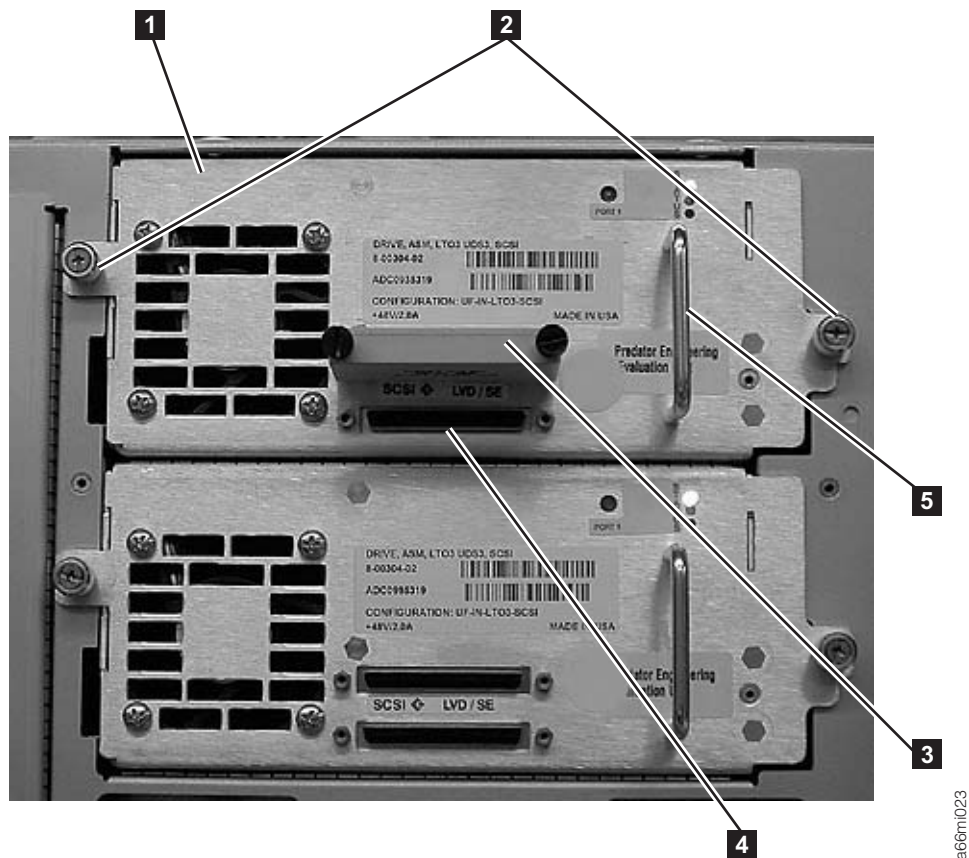

Figure 11-6. Drive sled (detail)
3. Loosen the two thumb screws (**2** in Figure 11-6 on page 11-9) that hold the drive in place by turning them counterclockwise.
4. Slide the drive out of the library module. Grasp the handle (**5** in Figure 11-6 on page 11-9) and slowly pull the drive toward you, while supporting the drive sled from underneath.